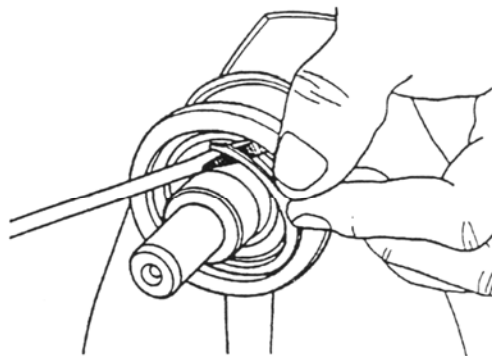
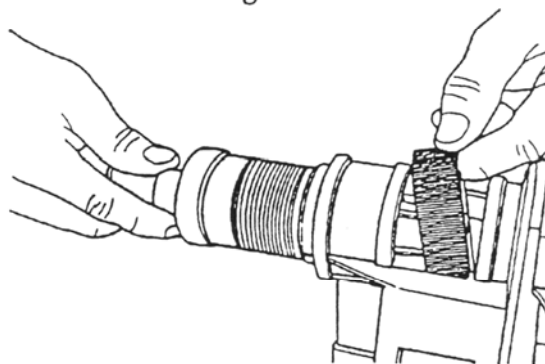

Fig. 23
Fig. 24
4. Remove the drive sleeve assembly. Advance the quill feed as far as it will go, and secure the quill lock to keep it from retracting. With a small blade screwdriver, pry out the retaining ring that holds the drive sleeve assembly in the headstock. See Fig. 23. Take hold of the upper auxiliary spindle and pull the assembly from the headstock. See Fig. 24. Be sure the Poly V-belt is loose and doesn't catch on the drive sleeve assembly as you pull it free.